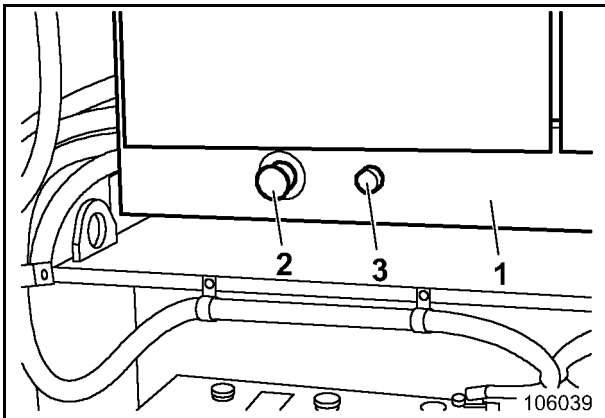

Fig. 2-54:
- ➔ Activate emergency OFF pushbutton (2, Fig. 2-54:)